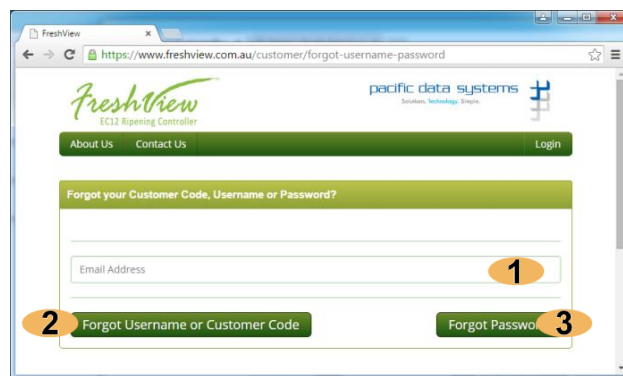

Figure 55: Forgot login details web page.
- 6 **Forgot Login Details:** See *Figure 55: Forgot login details web page.*